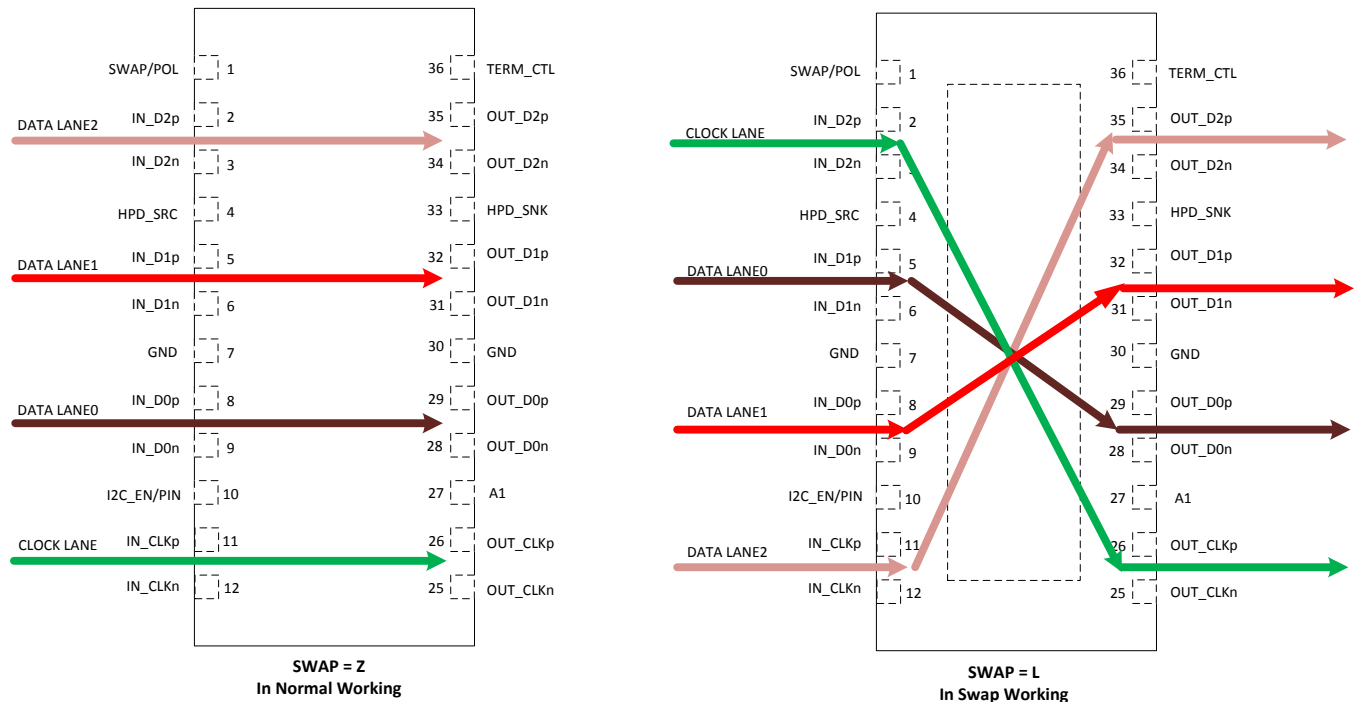

Figure 26. TMDS181 Swap Function
TMDS181 incorporates swap function, which can set the input lanes in swap mode. The IN_D2 routes to the OUT_CLK position. The IN_D1 swaps with IN_D0. The swap function only changes the input pins. The EQ setup follows the new mapping (see Figure 26). This function can be used with the SWAP/POL pin 1 and control the register 0x09h bit 7 for SWAP enable. Lane swap function works in both redriver and retimer mode.
(1) The output lanes never change, only the input lanes change. See Figure 26.